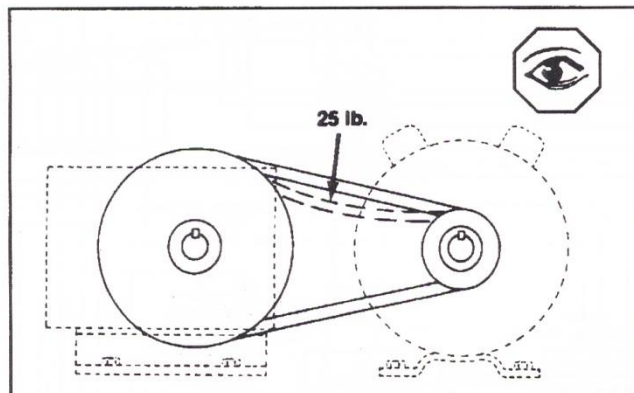

Figure 13: Measuring pump belt deflection
1. Measure belt deflection at the longest span of belt, midway between the pulleys. With a 25-lb vertical force applied, ensure the deflection is no more than 1/2" to 5/8" (see Figure 13).